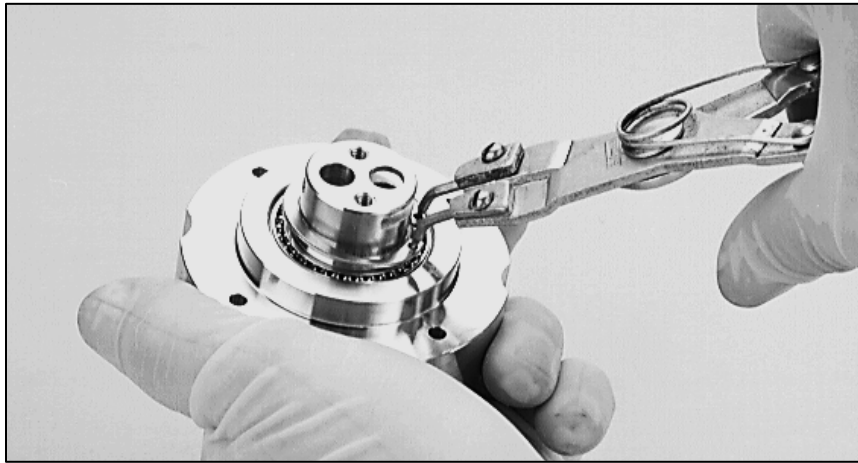

Figure 5-16. Removing the Retaining Ring
Perform the steps described below and refer to Figures 5-16 and 5-17 when disassembling the bearing housing assembly.
Step 2: Using a snap ring tool fitted with correct-sized prongs, spread the retaining ring and remove it from around the pivot shaft (see Figure 5-16).
Step 1: Put the pivot shaft in place inside the bearing housing, making sure that both parts face the correct direction. Figures 5-16 and 5-17 show these parts correctly assembled.